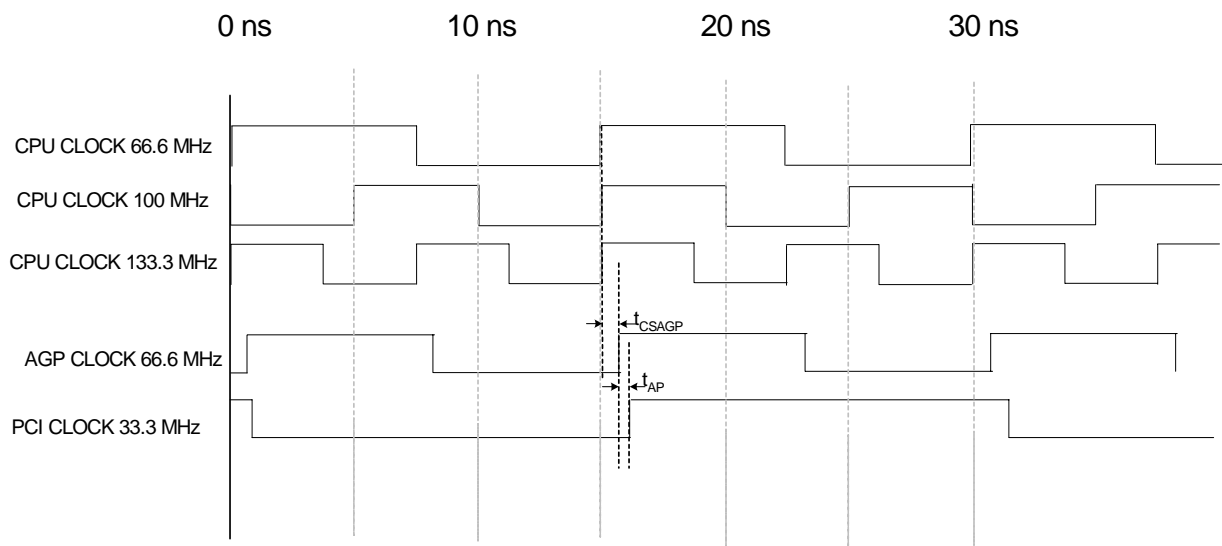

Figure 6. Clock Timing Relationships
16. See figure 6 for 0.7V loading specification.